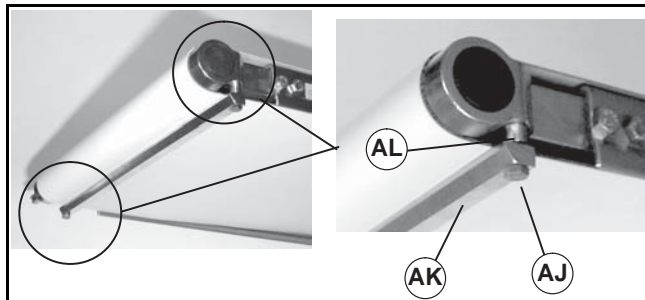

Figure 17
1. If installed, remove and retain two M5 hex head screws (Figure 17, item AJ), bottom wiper (AK) and two sleeves (AL).
3. If removed, install sleeves (Figure 17, item AL), bottom wiper(s) (AK) and M5 hex head screws (AJ). Tighten screws to 33 in-lb (3.7 Nm).
5. If removed, install sleeves (Figure 17, item AL), bottom wiper(s) (AK) and M5 hex head screws (AJ). Tighten screws to 33 in-lb (3.7 Nm).